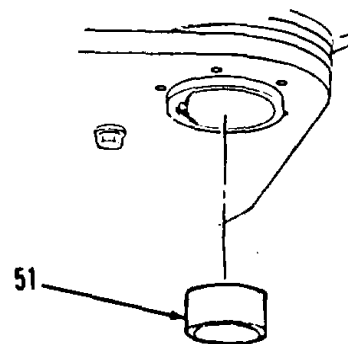

Figure 16-14.
- 25. Remove spacer (51, Figure 16-14).